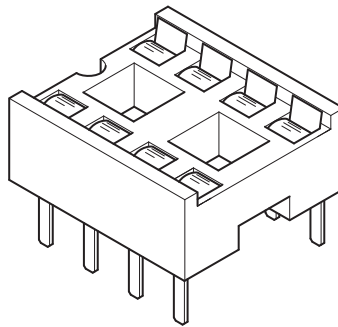

Fig. 4
- (c) An IC holder is shown in Fig. 4.